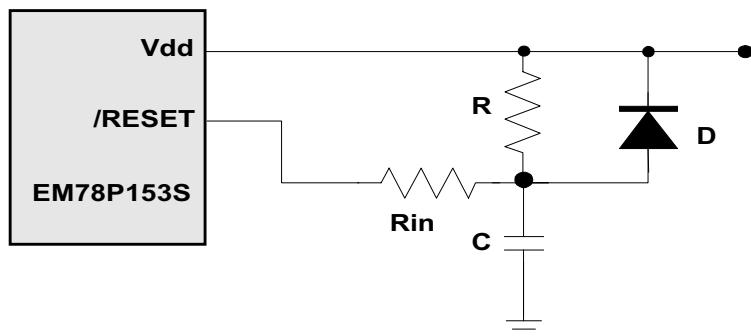

Fig. 17 External Power-Up Reset Circuit
The circuit shown in Fig 17 implements an external RC to produce the reset pulse. The pulse width (time constant) should be kept long enough for Vdd to reach minimum operation voltage. This circuit is used when the power supply has slow rise time. Because the current leakage from the /RESET pin is about $\pm 5\mu A$, it is recommended that R should not be great than 40 K. In this way, the voltage in pin /RESET will be held below 0.2V. The diode (D) acts as a short circuit at the moment of power down. The capacitor C, will discharged rapidly and fully. R_I, the current-limited resistor, will prevent high current discharge or ESD (electrostatic discharge) from flowing to pin /RESET.